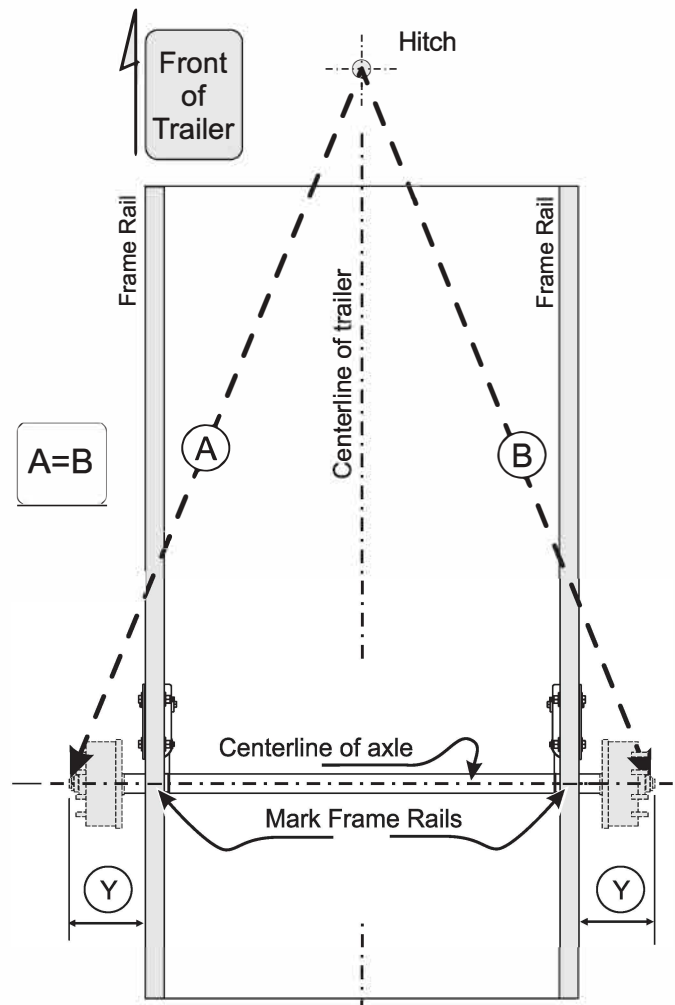

Fig. 1 Axle alignment (View from Top)
- 1) Mark frame rails at each side where centerline of axle should cross frame (fig.1).
- 5) To align axle, measure and compare distances "A" and "B" (fig. 1) and make sure that the error (the difference between "A" and "B") is no more than 1/8". If the error is greater than 1/8" reposition hangers and recheck.